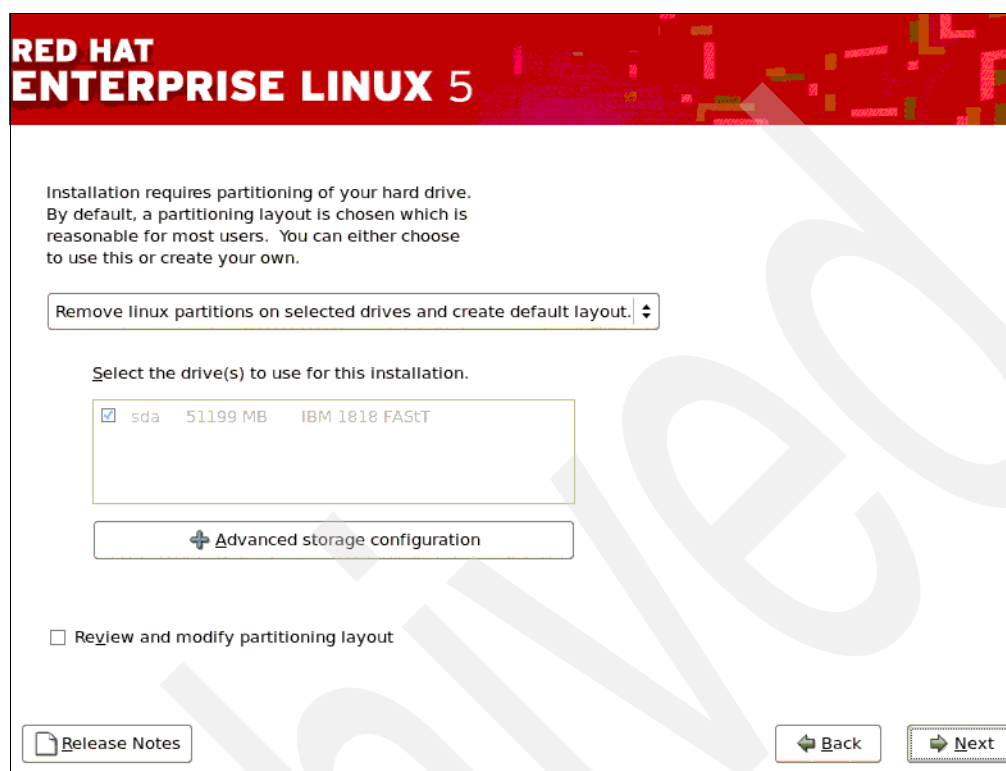

Figure 5-74 Disk partitioning
5. Make sure that the installer recognizes the LUN correctly. The DS5000 storage subsystem disk found is displayed, as shown in Figure 5-74. In this example, it is detected as /dev/sda and the disk model is IBM 1818, which corresponds to a DS5000 storage subsystem.